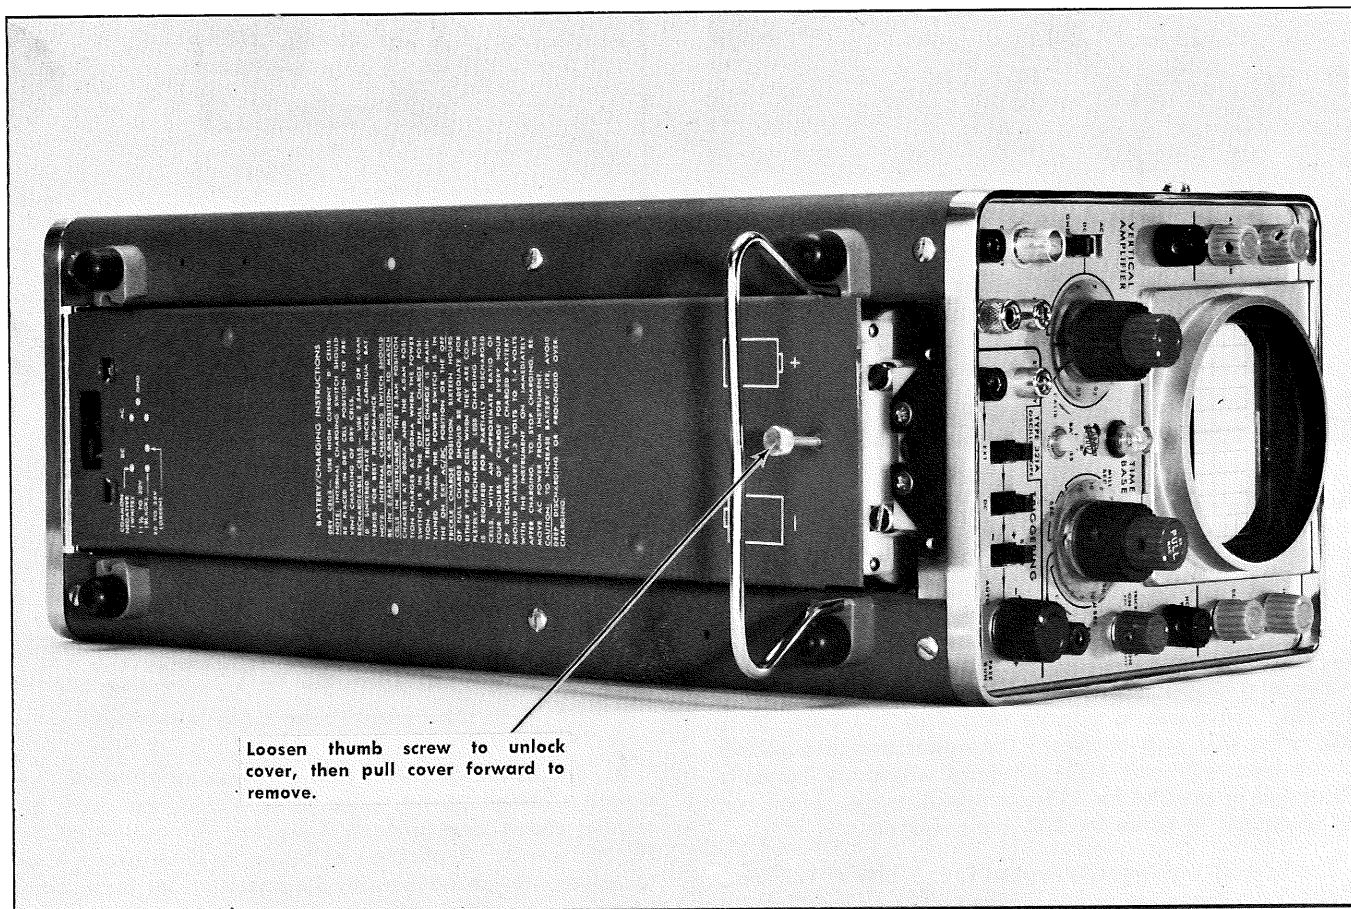
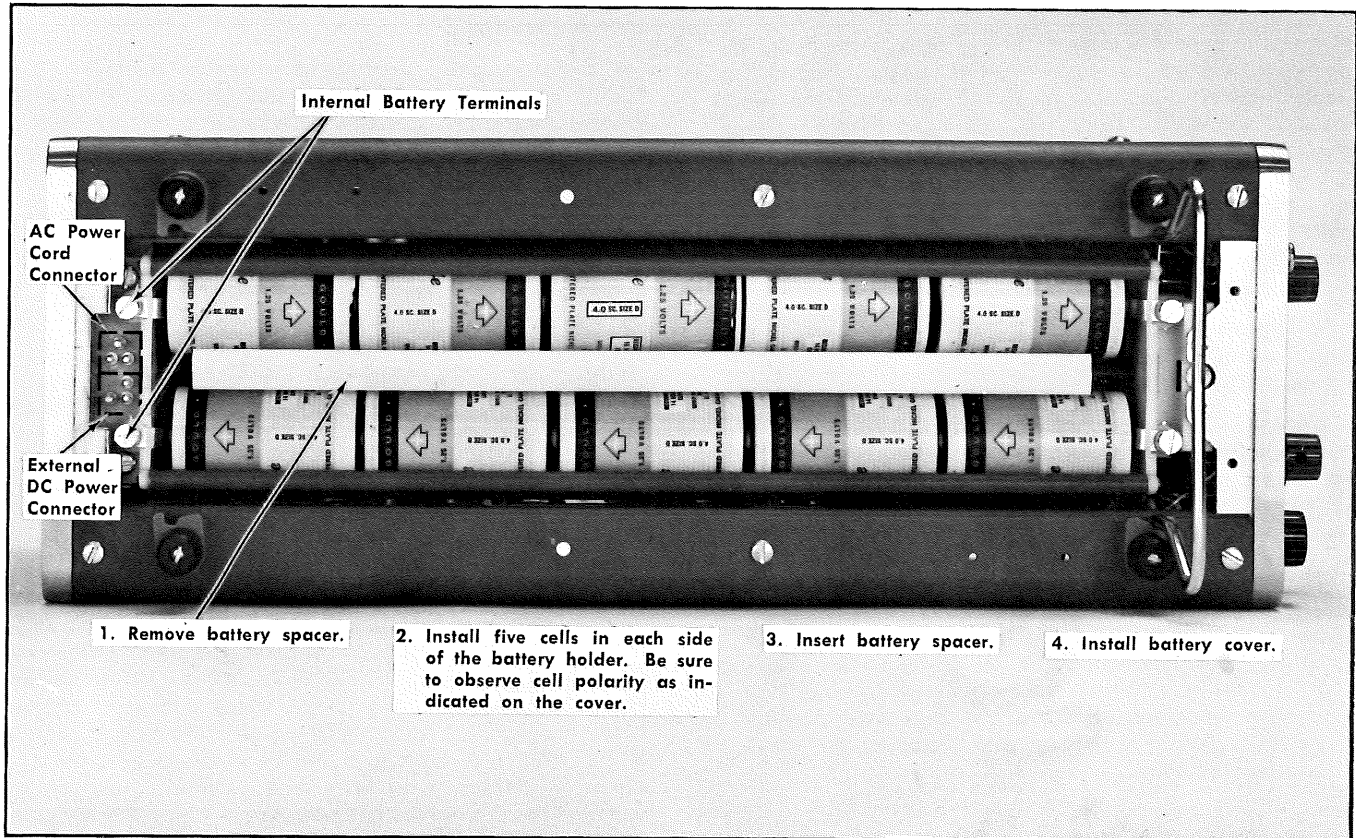

Fig. 2-3. Removing the battery cover from the Type 321A Oscilloscope.
Fig. 2-4. Procedure for installing the batteries.
To install the cells, first open the battery cover as illustrated in Fig. 2-3. Next, install the batteries by following the procedure given in Fig. 2-4.
One method for determining charge conditions of the batteries is to set the POWER switch to BATT ON and then measure the voltage across the battery terminals (see Fig. 2-4). A reading higher than 13 volts indicates that the batteries are fully charged. A reading lower than 13 volts indicates that more charging time is required.
3. Be sure to observe the cell polarity when inserting the batteries (see Fig. 2-4).
If the total potential across the battery terminals (see Fig. 2-4) does not reach 13-14 volts even after the recommended charge time, one or more of the battery cells is probably defective. To locate the defective cell, first be sure the batteries have been charged for the recommended charge period. Then, while operating the instrument on the internal batteries, measure the potential across each individual cell. Use a meter which has a long, thin tip to reach the positive contact between the batteries. If the individual battery cell measures below about 1.2 volts it is probably defective; above this voltage the battery cell is probably operating correctly. If the total potential across the battery terminals is 13-14 volts after the recommended charge period, but the LOW BATTERIES light comes on too soon when operating on internal batteries, the charge retaining capacity of one or more of the battery cells has probably decreased below the acceptable limits. (NOTE: Batteries may not be reaching full charge due to a defective charger circuit.) This can be checked in a manner similar to that described above. First, be sure that the batteries have been charged for the recommended charge period. Then, operate the instrument on the internal batteries until the LOW BATTERIES light comes on. Now measure the potential across each cell. If an individual cell measures below about 1.2 volts, it is probably defective; above this voltage it is probably acceptable. (NOTE: If the voltage of all the cells is above 1.2 volts and the charger circuit is operating correctly, the LOW BATTERIES circuit may be at fault.)